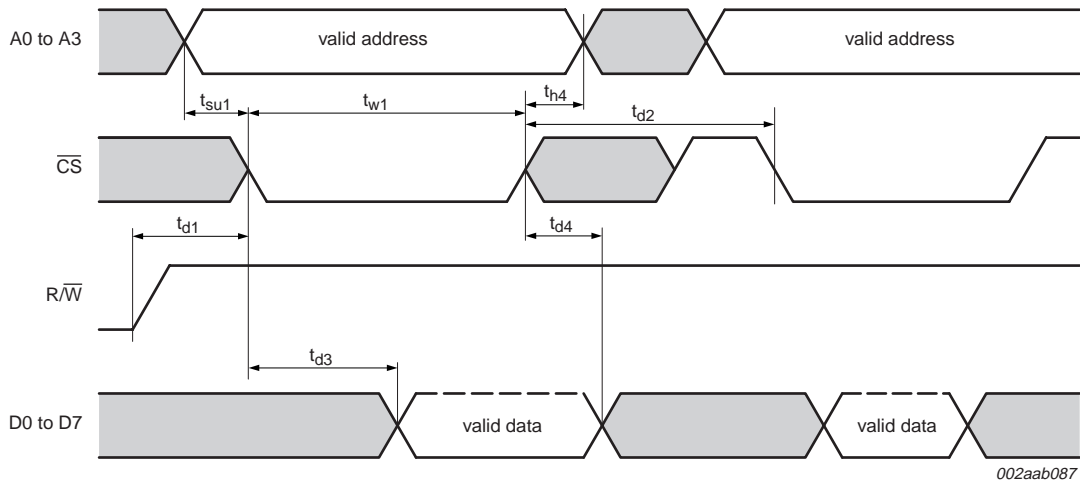

Fig 5. General read timing
- (2) CS timing during a read cycle. See Figure 5.